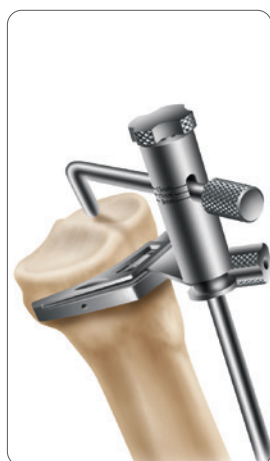

Figure 14
2. Lower the cutting block until the stylus touches the reference point on the least affected side of the tibia (**Figure 14**). The stylus can be adjusted for a 1-13mm tibial resection by twisting the knob on top of the stylus.